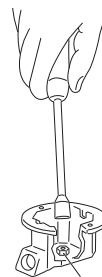

Fig. 7: nozzle replacement
2. Using a 7 mm tube spanner, unscrew the burner nozzles [Fig.7].